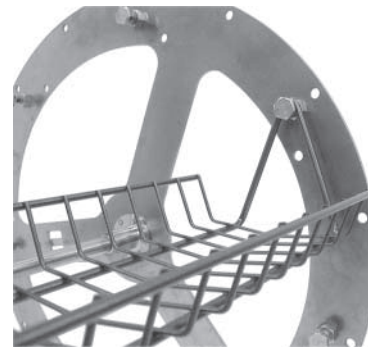

Fig. 29
2. Hang the right end of the Rack or Basket on the corresponding stud on the right side of the rotor at the same height (Fig. 29). The accessory must be level.